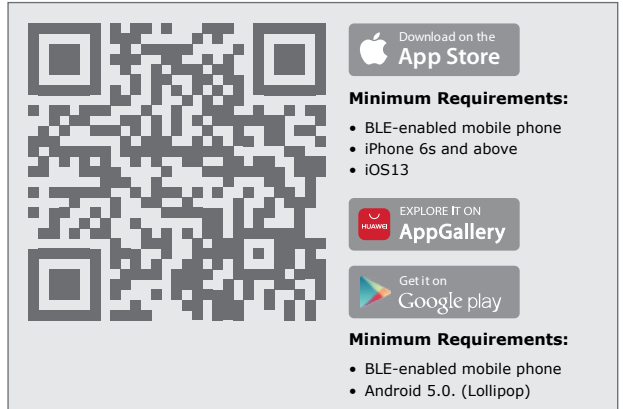

FIGURE 86
1. Scan the QR Code in Figure 86.